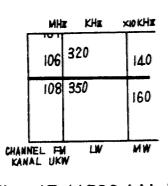

Fig. 17 (1500 kHz)
| (5) | " | 1500 kHz | 1500 kHz [Fig. 17] | " | C ₁₈₈ (OSC Trimmer) C ₂₀₉ (ANT Trimmer) |